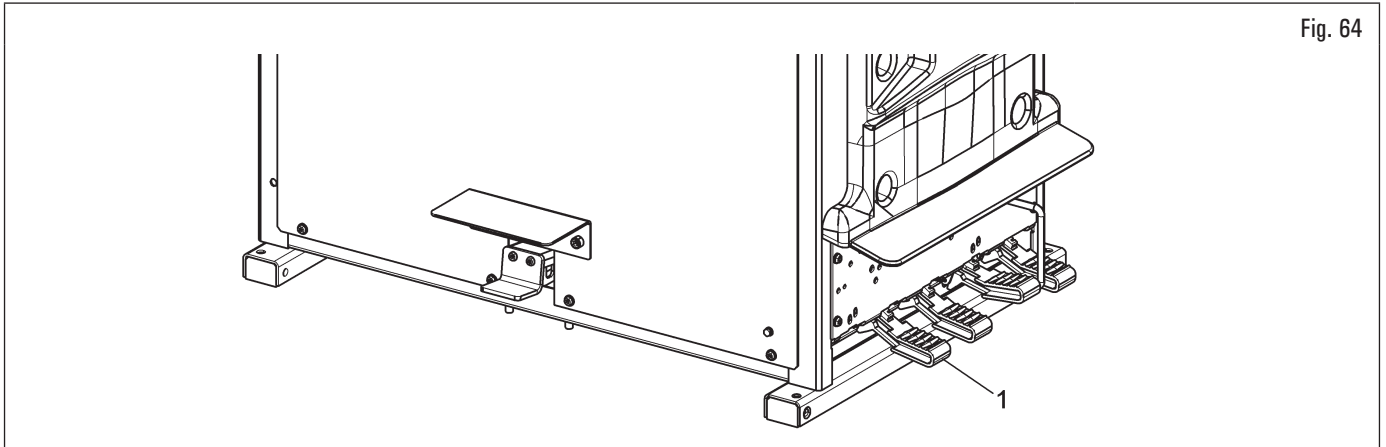

Fig. 64
1. set the work arm to work position depressing pedal (Fig. 64 ref. 1);
7. once assembly is completed, remove arm and take it to rest position by depressing pedal (Fig. 64 ref. 1);